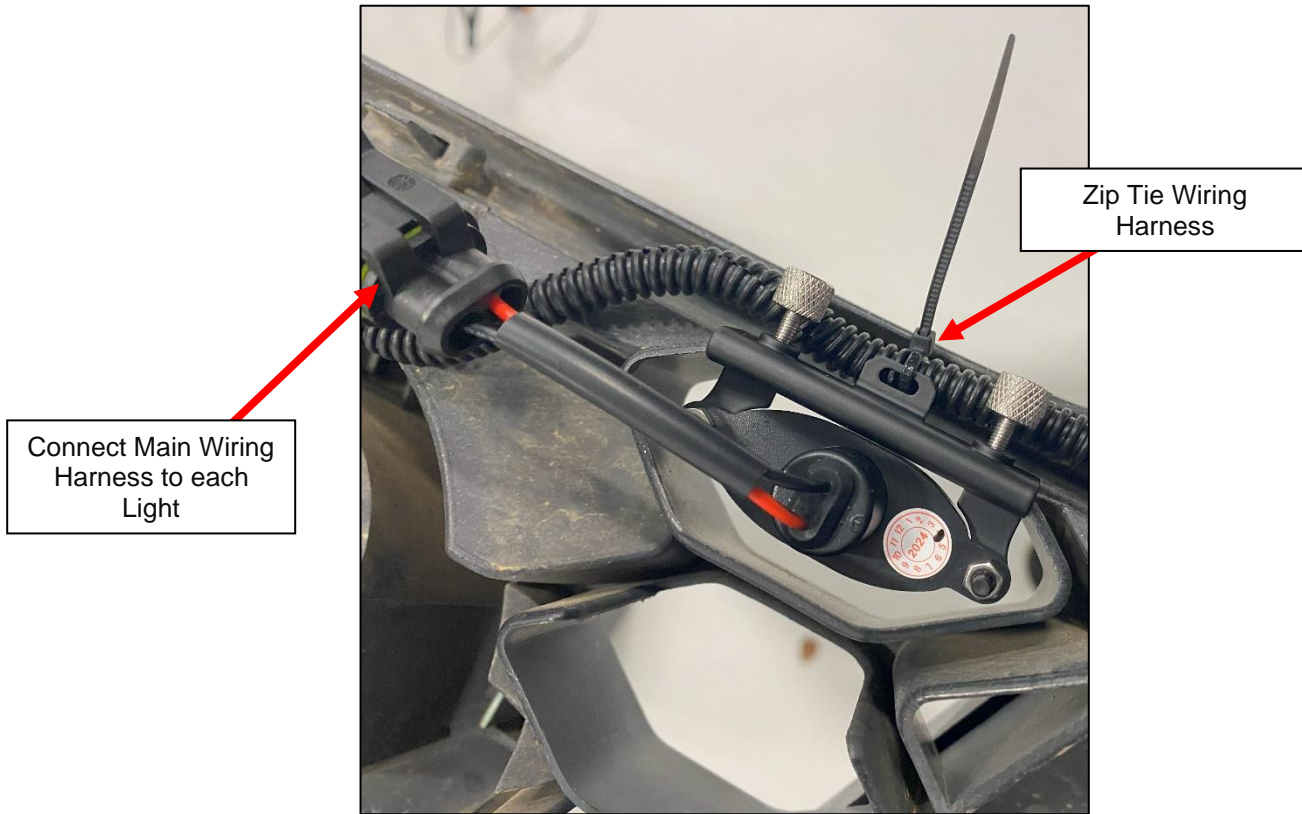

Figure 5
7. Locate the main Wiring Harness for the Grille Lights. Connect each light to the Wiring Harness. You can optionally secure the wires to the Light Brackets with the included Zip Ties. *Figure 5.*